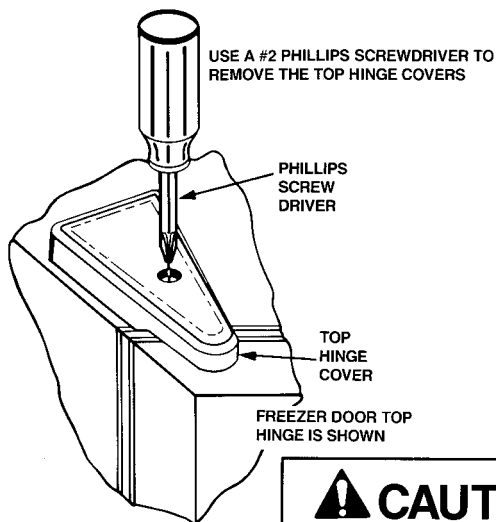

FIGURE 11
1. Remove the top hinge covers. See Figure 11.